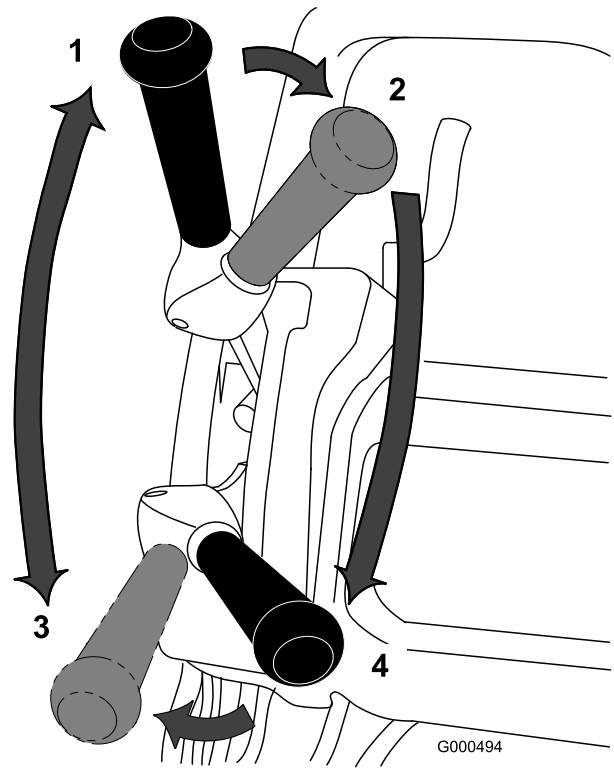

Figure 26
1. Start the engine, set the throttle to a reduced speed, push down on the handle to raise the cutting unit, depress the operator presence control, move the traction lever to the Engaged position and transport the mower onto the collar of the green (Figure 26).
2. Move the traction lever to the Disengaged position and Engage the reel drive lever (Figure 26).
3. Move the traction lever to the Engaged position, increase the throttle speed until the mower is traveling at the desired ground speed, drive the mower out onto the green area, lower the front of the mower down and commence operation (Figure 26).